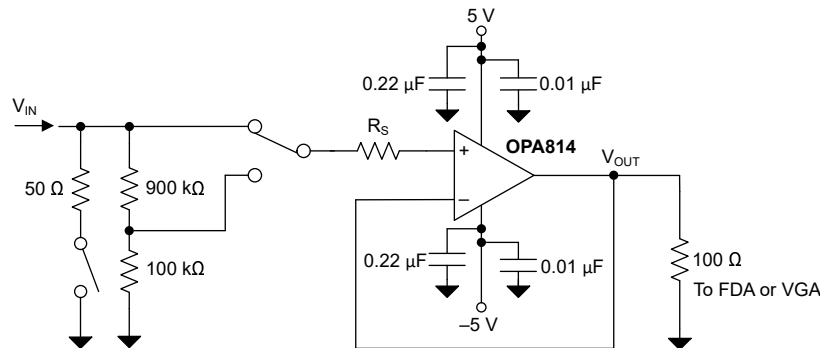

Figure 8-4. High-Input-Impedance, 180-MHz, Digitizer Front-End Amplifier
- Optimizing Overshoot:** The OPA814 features an internal slew-boost circuit to deliver fast rise-time in applications that require high slew rates, such as when configured as a transimpedance amplifier. For applications where overshoot must be limited, limit the input slew rates by introducing a series resistance (R_S); see also Figure 8-4. Resistor R_S forms a low-pass filter with an input capacitance of approximately 2.5 pF at the noninverting pin of the OPA814, thus limiting the input slew rate to the amplifier. Figure 8-5 shows how limiting the input slew rate to the amplifier results in good overshoot performance. Figure 8-6 shows how this configuration achieves a small-signal and large-signal bandwidth of 180 MHz.